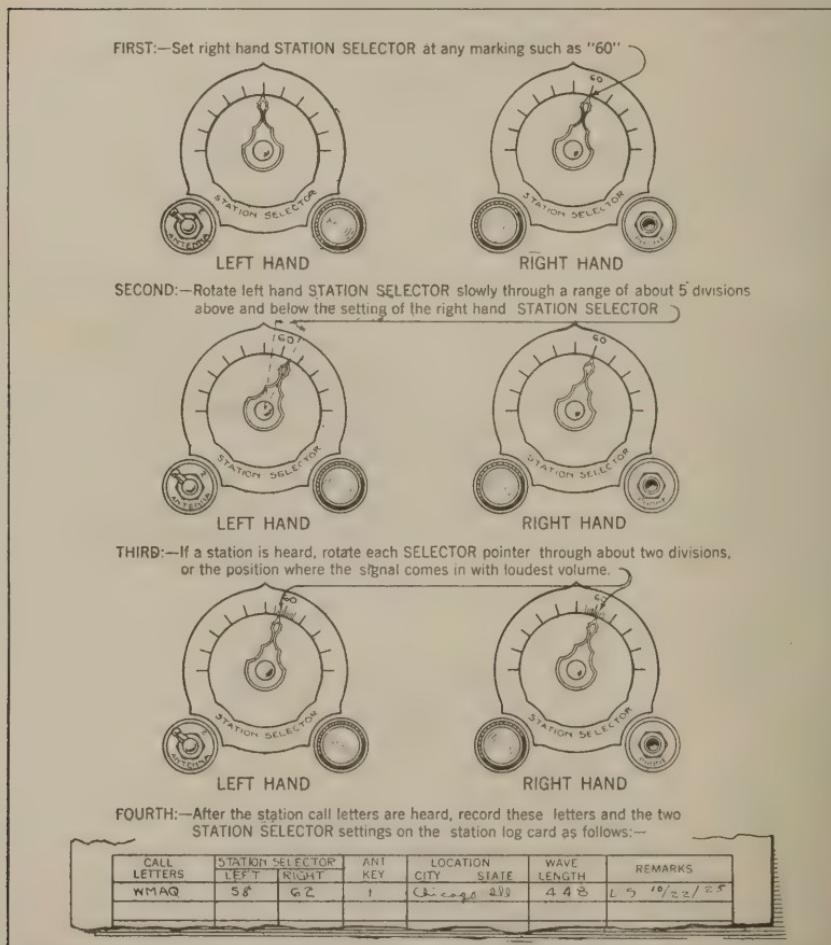

Fig. 21—Selecting Stations when the Wave Lengths are not known
- (b) "Selecting Stations by Hunting or Fishing Method" (Fig. 21).
Fig. 21 shows how this hunting method of station selecting can be done, without requiring that the start be made at the "0" end of the scales.